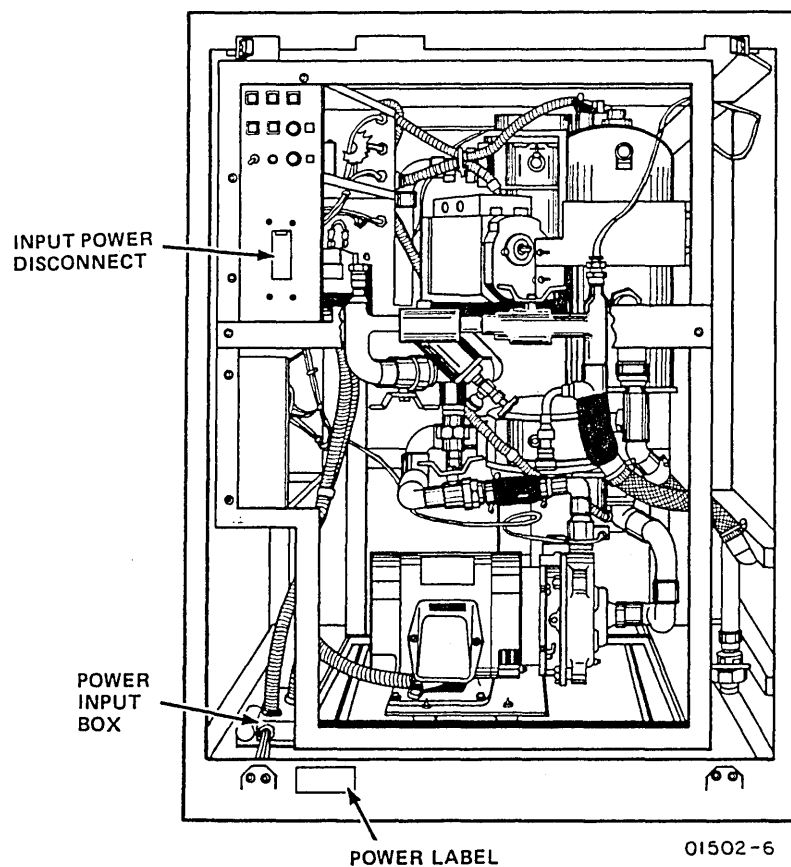

Figure 3-14. Power Connections to 102-L/min (27-gal/min) Unit
- ___ 1. Set INPUT POWER DISCONNECT switch on water cooling unit (figure 3-14) to OFF.